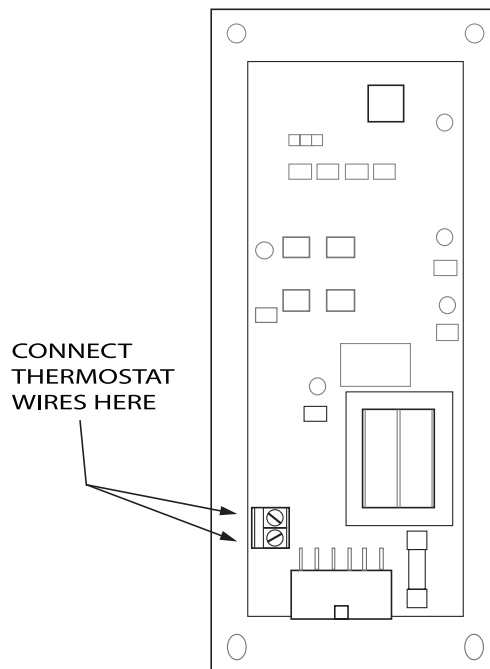

FIGURE 24
- The two thermostat wires connect to the terminal block on the lower left side of the back of the control board. (See figure 24)